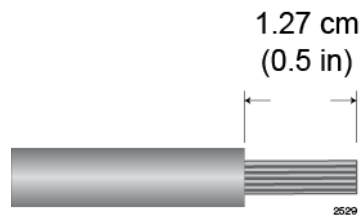

Figure 114. Stripping the Power Wires
1. Prepare adequate lengths of two stranded 8 AWG power wires by stripping them as shown in Figure 114.